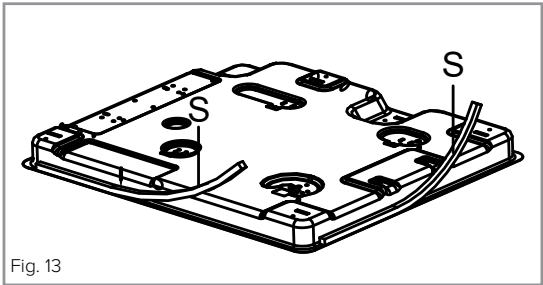

Fig. 13
2. Position the hob seal, as shown in Fig. 13 on page 25, ensuring that the ends meet without overlapping. Do not use silicone type sealant.